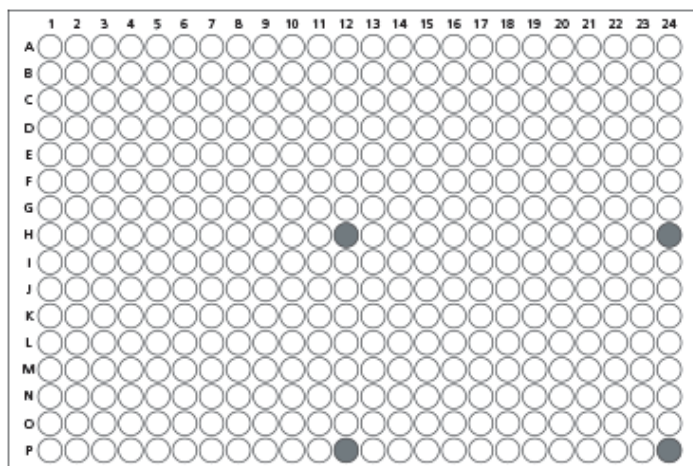

Figure 1. 384-Well Plate Diagram Indicating Wells Containing TBP qPCR Control Cocktail
- 10 μ L **TBP qPCR Control Cocktail** in each of wells H12, H24, P12, and P24 (see Figure 1)